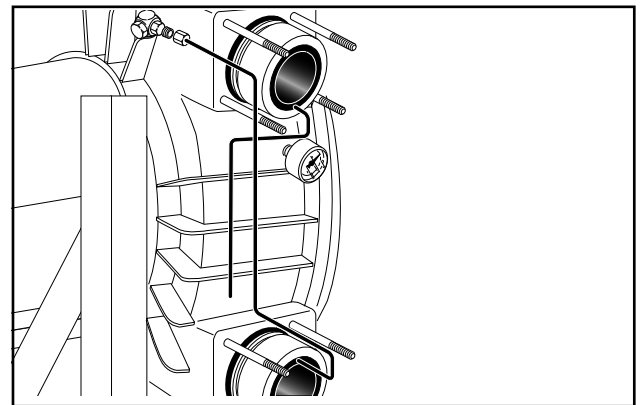

Fig. 24 Ventilation pipe
3. The ventilation pipe on suction side is replaced with a different version and connected with the angle fitting on the back of the pump. The ventilation pipe on discharge side is guided to the outside (Fig. 24).